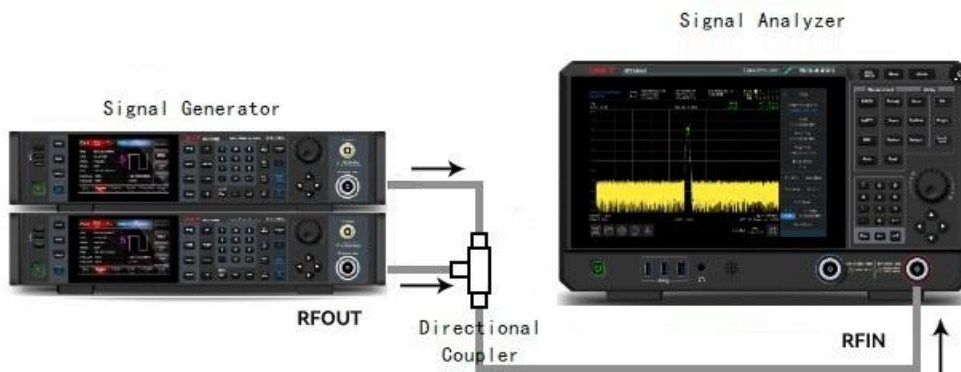

Figure 3-4 Instrument Setting for Acquire Signal from Two Channel
1. As shown in Figure 3-4, connect two signal sources to RF IN port via a directional coupler.
1. As shown in Figure 3-4, connect two signal sources to the input port of the signal analyzer.